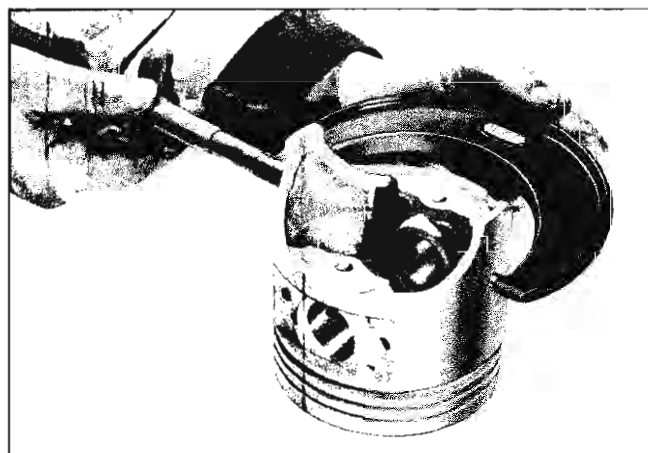

Fig. 6-68 Measuring Piston with Micrometer
8. Using tool J-6901-3 (Fig. 6-68) press pin out of piston and connecting rod.
Make sure the micrometer is in full contact (Fig. 6-68).